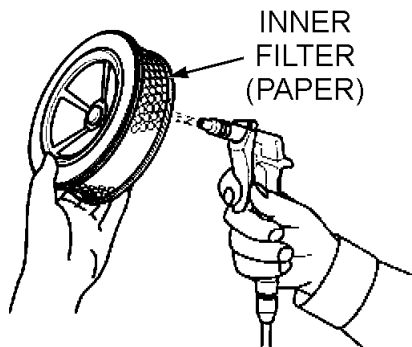

Figure 26. Cleaning Inner Paper Filter
- To clean the paper air filter (Figure 26), tap the filter element several times on a hard surface to remove dirt, or blow compressed air [not to exceed 30 psi (207 kPa, 2.1 kgf/cm²)] through the filter element from the air cleaner case side.